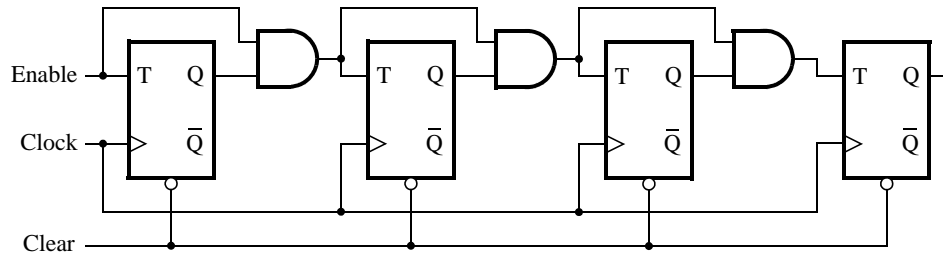

Figure 1: A 4-bit counter.
Consider the circuit in Figure 1. It is a 4-bit synchronous counter which uses four T-type flip-flops. The counter increments its value on each positive edge of the clock if the *Enable* signal is asserted. The counter is reset to 0 by setting the *Clear* signal low. You are to implement a 8-bit counter of this type.
1. Write a Verilog file that defines a 8-bit counter by using the structure depicted in Figure 1. Your code should include a T flip-flop module that is instantiated 8 times to create the counter. Compile the circuit. How many logic elements (LEs) are used to implement your circuit? What is the maximum frequency,  $F_{max}$ , at which your circuit can be operated?
5. Implement a 4-bit version of your circuit and use the Quartus II RTL Viewer to see how Quartus II software synthesized your circuit. What are the differences in comparison with Figure 1?